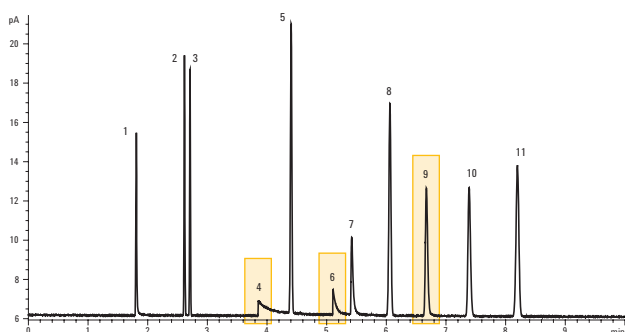

**Figure 1:** Here you can see the separation of a series of probes that are undemanding by today's standards – and which are used by many GC column manufacturers.
### Experimental Conditions for Figure 1:
**Figure 2:** When the column in Figure 1 was evaluated with Agilent's new Über One mix, very poor performance was observed for both the 4-picoline and the trimethylphosphate (peaks 4 and 6, respectively). There was also increased tailing of the 1,2-pentanediol (Peak 9), indicating poor deactivation or possible oxygen damage to the stationary phase.
**Contrary to the results of the QC test in Figure 1, this column would not perform well with demanding analytes, and would fail Agilent's new column inertness QC testing.**